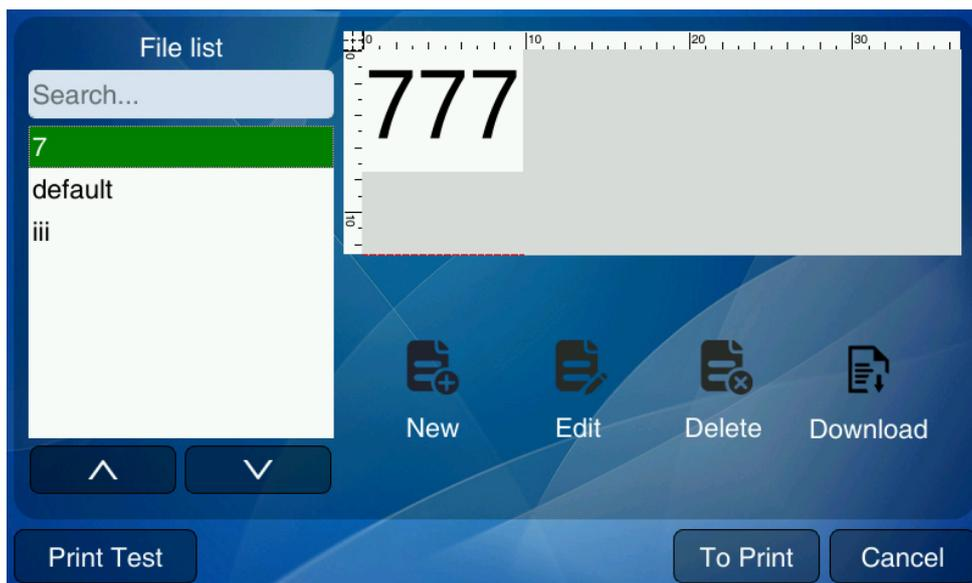

Figure 5-14 Load file interface
1、 Figure 5-14 shows the page for loading files. After you select a file, click the  button. Delete the selected file.